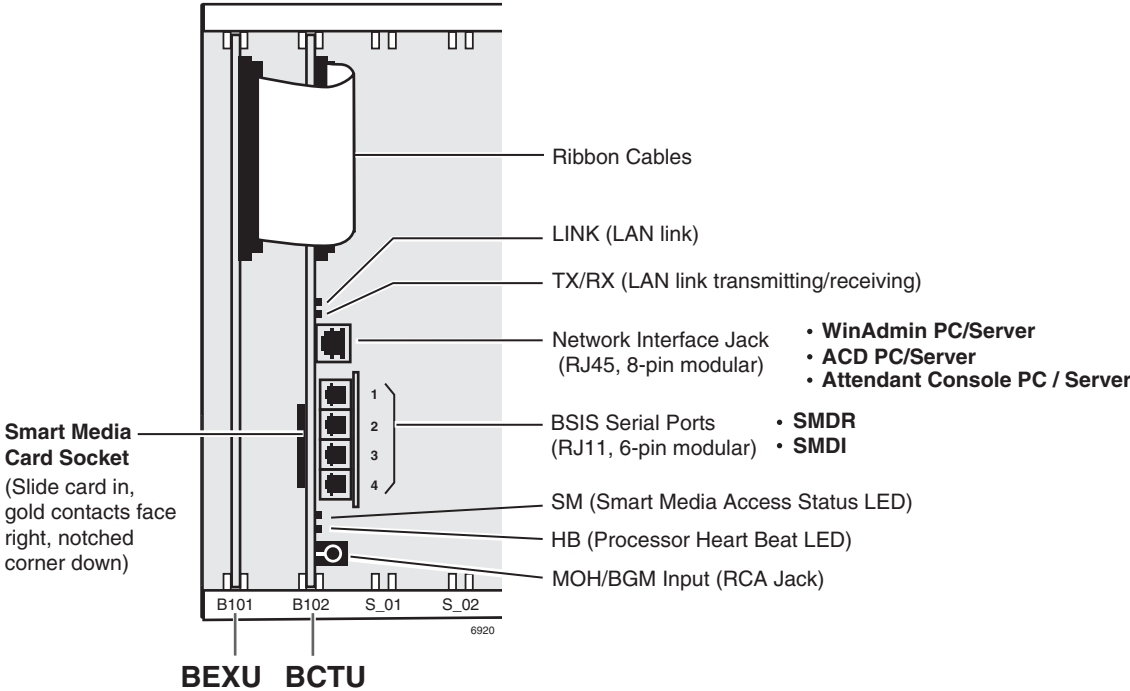

Figure 4-28 BCTU/BEXU Processor PCB Connectors
4. Install the BCTU Base Unit processor in slot B102 (see Figure 4-28). Ensure the component side of the BCTU PCB is facing right when installing it in the Base Cabinet.